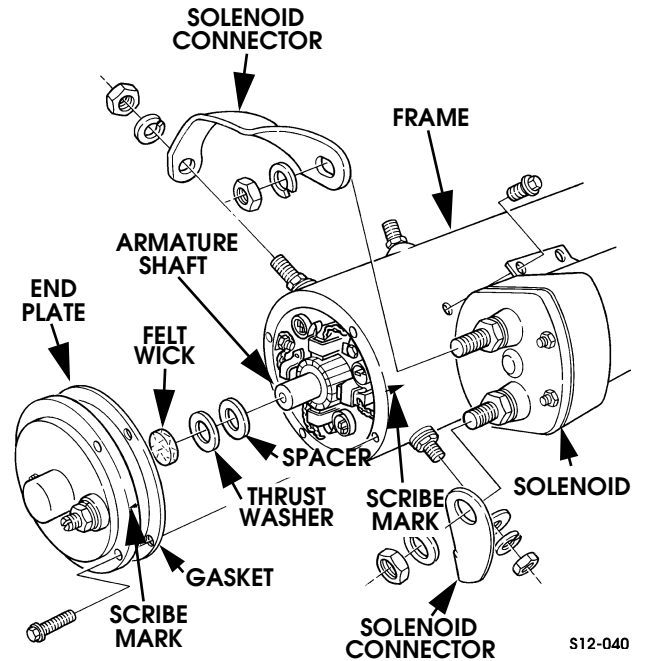

Figure 12-56: End Plate Removal
4. Remove connector nuts and remove solenoid connectors from frame assembly and solenoid (Figure 12-56).